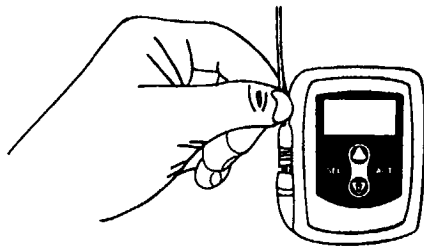

FIGURE 3: Connect the Cable to the Continuous Glucose Monitor
3. **How to connect the Cable to the Monitor:** Hold the Monitor Connector end of the Cable in one hand and the Monitor in the other hand. Place the Monitor Connector just above the Monitor Connector Port until gentle contact is made. Align the pins in the Cable Connector with the sockets in the Monitor Connector Port. Apply firm pressure to advance the Monitor Connector into the Monitor Connector Port until it is firmly seated into place. (Figure 3).